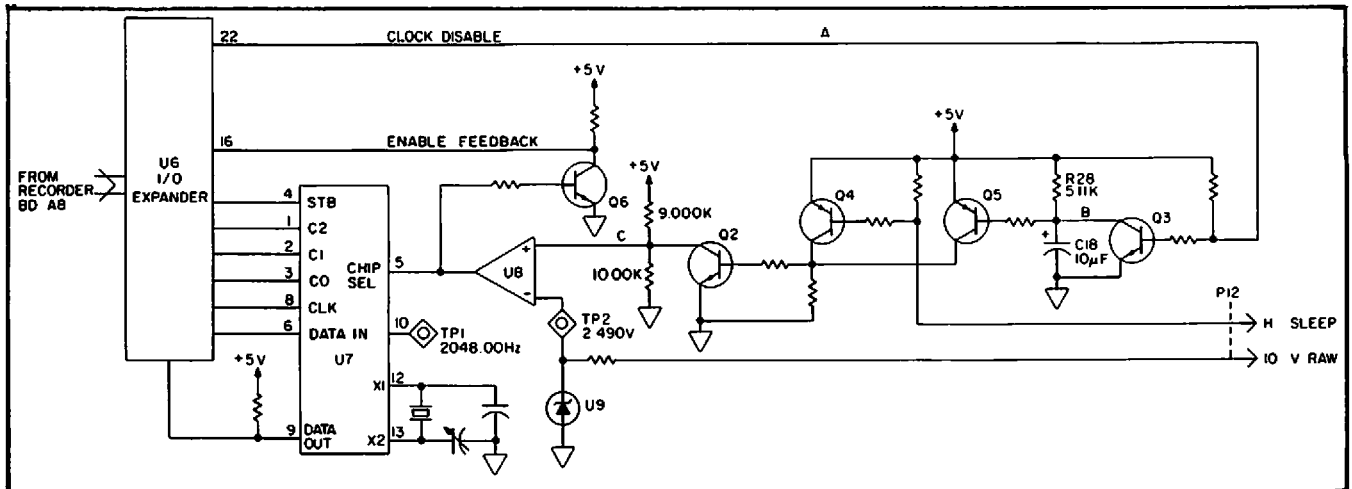

Figure 2-29
2.3.7.5 Clock Circuit (Refer to Figure 2-29)
A low on the sleep line causes the collector of Q2 to go low which disables the clock during the defibrillator discharge (Figure 2-29).